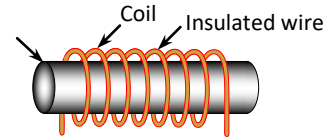
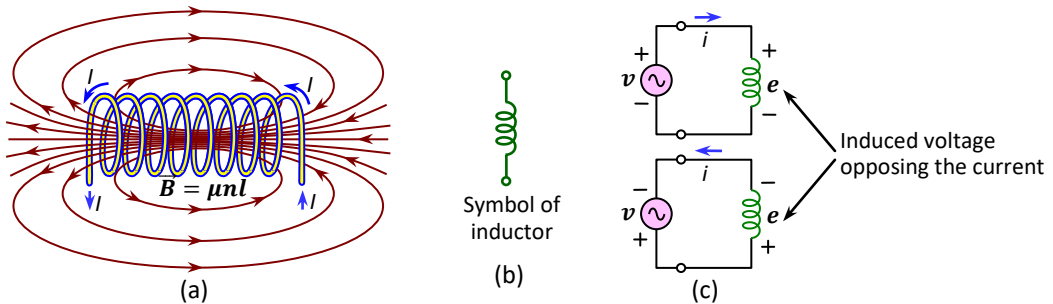

Fig.1-44: Inductor
Fig.1-45: Inductor: (a) Coil with magnetic field, (b) Symbol of inductor, and (c) Inductors with induced voltage
**Inductor** (also called *coil*, *choke*, or *reactor*) is a passive two-terminal electrical component that stores energy in the form of magnetic field when current flows through them. An inductor typically consists of an insulated wire wound into a coil around a core [Fig.1-44]. When current flows through an inductor magnetic field is produced inside the coil as shown in Fig.1-45(a). If the current flowing through the inductor changes with time, magnetic field also varies with time, and this time-varying magnetic field induces an electromotive force or voltage ( $e = -Ndi/dt$ ) across the inductor as described by Faraday's law of electromagnetic induction [Fig.1-45(c)]. According to Lenz's law, the induced voltage has such a polarity (direction) that it opposes the change in current that produces it. As a result, inductors oppose any change in current (AC current) through them by inducing a voltage (in opposite direction). The ability of an inductor to oppose the change in current is measured by a parameter called **inductance** and is denoted by  $L$ . Inductance is defined as the ratio of the induced voltage to the rate of change of current ( $L = e/(di/dt)$ ). In SI system, the unit of inductance is **Henry** (H). Along with capacitor and resistor, inductor is one of the three passive linear circuit elements that are used to build up electrical and electronic circuits.